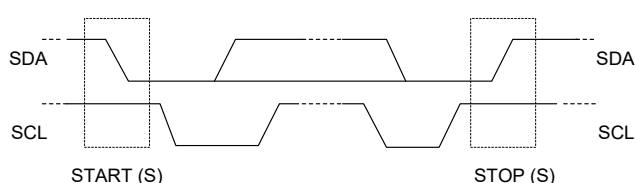

Figure 11. Placing the Start and Stop Conditions in the I²C Bus
When the bus is free (idle), both SDA and SCL remain high. A START (S) condition is sent by master at the beginning of a transaction with a high-to-low transition on the SDA line while the SCL is high and all slaves will detect that. Similarly, one (or more) STOP (P) condition is sent by master with a low-to-high transition of the SDA line while the SCL is high to terminate the transaction and release the bus (See Figure 11). It is recommended to initiate the bus by sending a STOP condition after power-up. The master may not release the bus after a complete transaction with the slave and send a repeated START (Sr) to initiate a new data exchange with the slave.